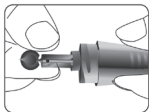

Figure 23
STEP 2: Insert a sterile lancet into the Lancet Carrier. See Figure 23.